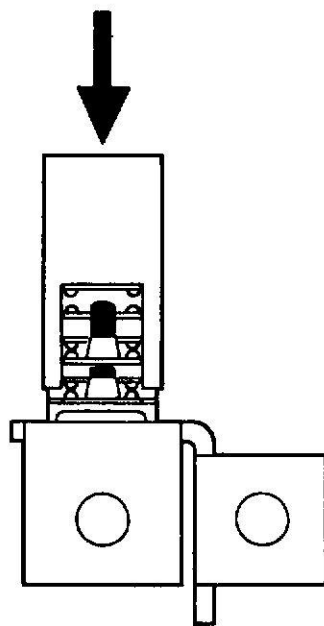

Figure 5. Hookswitch Actuation, LM-625 Kit.
3.18 Install the rectangular, glass fiber actuator block furnished in the kit over the hookswitch springs, so that the thin walls of its cut-out end fit between the springs and the walls of the acrylic shield, as shown in Figure 5.